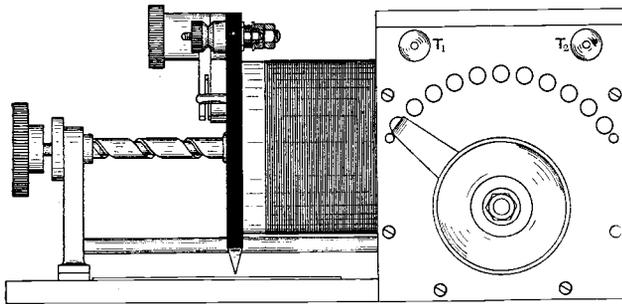

Fig. 7. An excellent short wavelength loose coupler.
(B) The type of loose coupler shown in Fig. 7 is still a favourite with many amateurs, in spite of its several disadvantages. It is, however, fairly simple in construction. The coil showing on the left of the figure is the secondary winding, and it is tapped, the